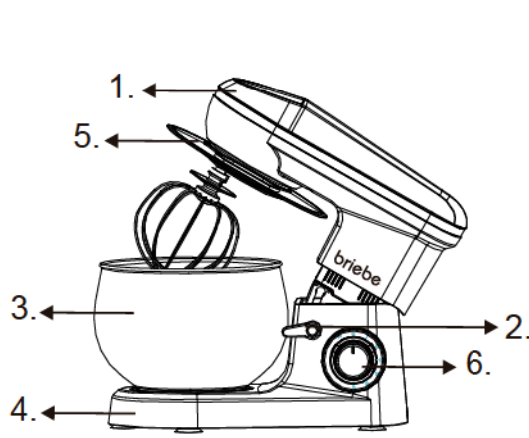

Fig. 1
DESCRIPTION OF THE DEVICE (figures 1 and 2 and 3)
4. Place the bowl (3) on the base (4), then turn the bowl (3) in clockwise until it locks.
5. To lower the top of food processor (1), press the tilt button (2) and push by one hand the top of food processor (1) down. A click sound will be heard when the head has reached the correct position. Make sure the bow cover (5) is fixed in place (see figure 1).